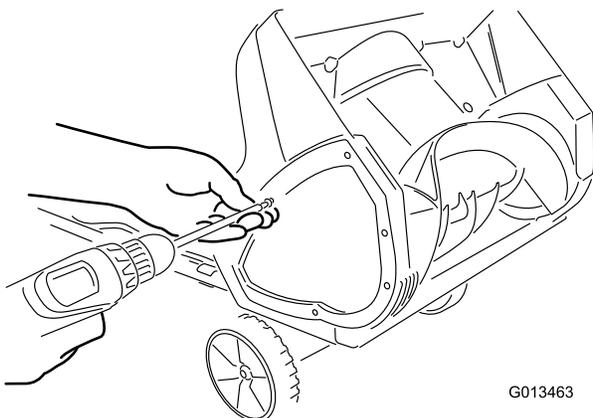

**Figure 9**
1. Remove the screw from each side plate that holds the scraper (Figure 8) and 2 screws from under the appliance (Figure 9) that secure the scraper to the appliance.